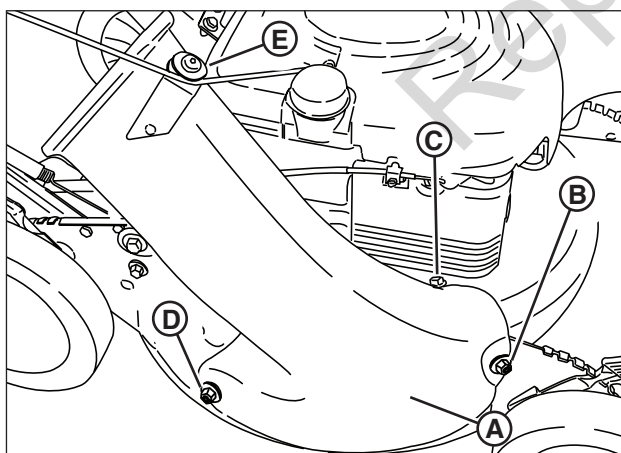

Figure 10: Installing the grass bag adapter
2. Install the adapter (**A**, **Figure 10**) to the deck in place of the mulching cover, making sure that: